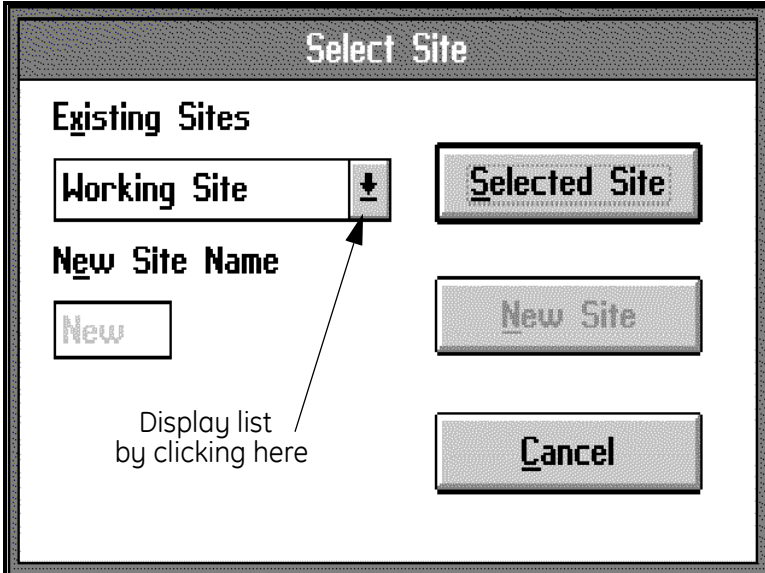

Figure 5-5: Site Selection
1. Select the **Delete Stored Site** command (**ALT+S** and **ALT+D**). A window similar to the one shown in Figure 5-5 below appears.